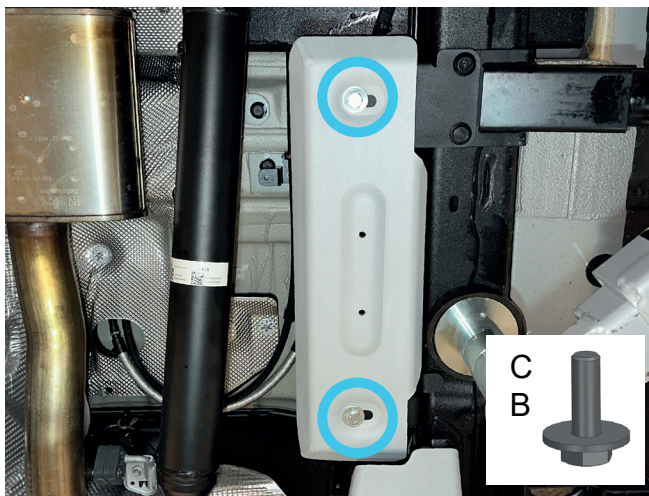

Fig. 12
12. Install the fuel filter (diesel)/fuel pipes (gasoline) skid plate (item 2) on pre-installed brackets. Fix the skid plate using bolts M10x30 and washers 10 (item B, C) (Fig. 12).